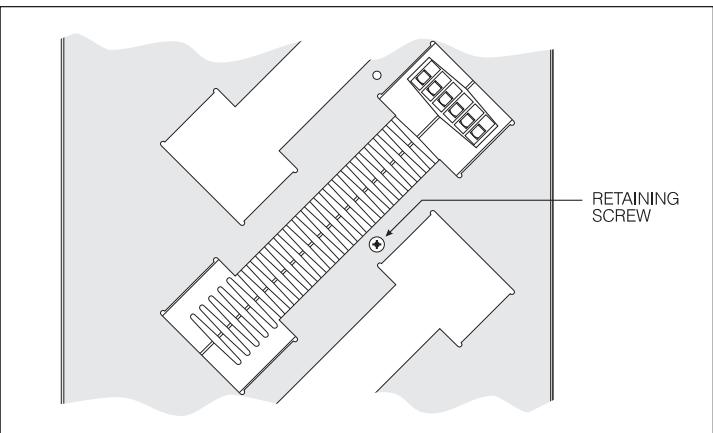

Fig. 1-1: Location of retaining screw.
5. Remove the locking screw (if fitted) from the left-hand side of the module (see Fig.1-1).
2. If required, secure the module to the STACKER by inserting a suitable retaining screw on the left-hand side (see Fig.1-1).